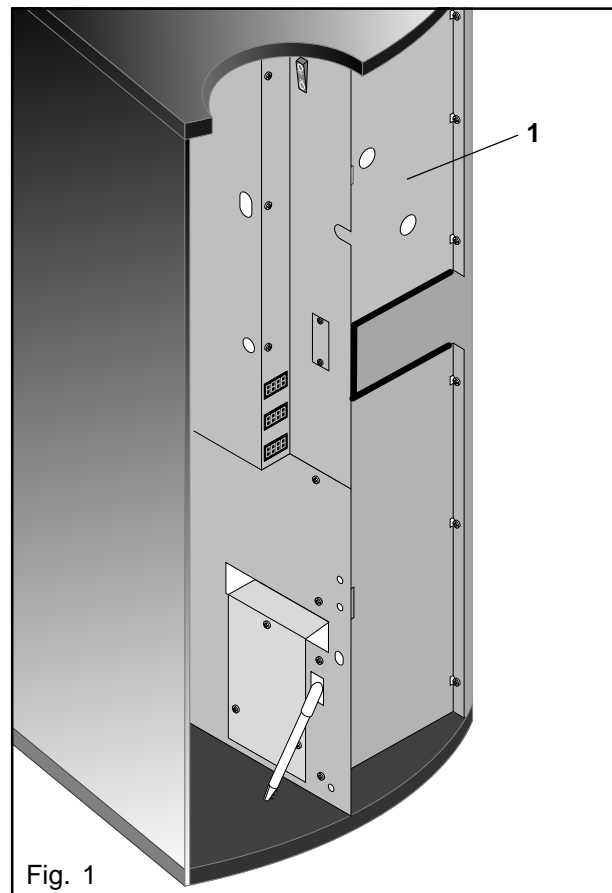

Fig. 1
- Remove the top front cover (1) (Fig. 1).
- Loosen the hoses for the solenoid valves to be dismantled (hot water (1) and brewer (2)). (Fig. 1)
- The solenoid valves (4) for hot water and the brewer are preadjusted by the manufacturer. (Fig. 1)